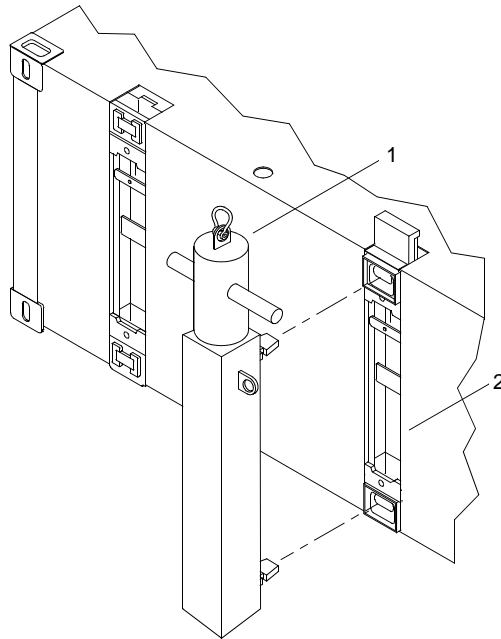

Figure 11. Removing Mooring Bitt
3. Using forklift and sling, remove mooring bitt (figure 11, item 1) from female guillotine assembly (figure 11, item 2).
5. Remove sling from mooring bitt (figure 11, item 1).